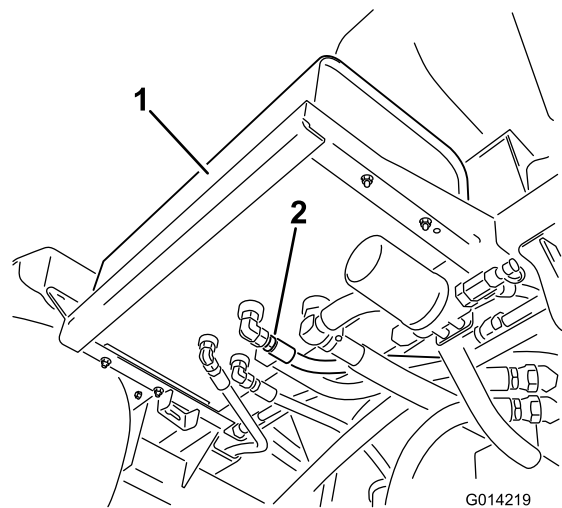

Figure 89
2. Clean the area around a hydraulic-hose fitting on the bottom of the hydraulic-fluid tank (Figure 89).
4. Remove the hose fitting from the tank, allowing the fluid to drain into the pan (Figure 89).